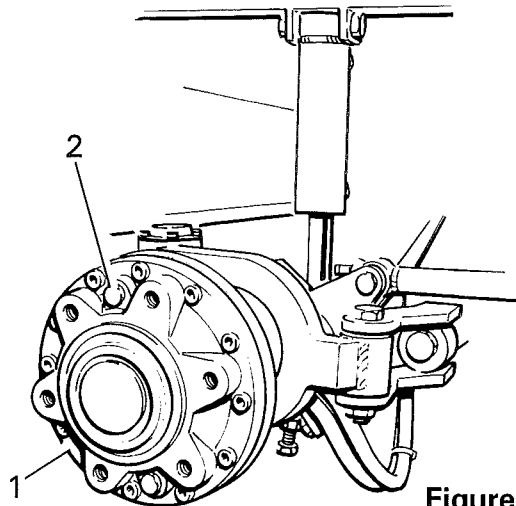

Figure 27
The optional hydraulic powered axle is designed to provide additional traction during work. The powered axle is capable of transferring up to 45hp from the tractor PTO to hydraulically drive the harvester wheels giving a maximum speed of 5.5kmh (3.5mph). This is achieved by means of the load sensing, pressure compensated, variable displacement pump (item 1, figure 25) which provides the hydraulic oil flow to drive the wheel motors (item 1, figure 27).
Place the motor in a position in which one of the bleed screws (*item 2, figure 27*) is topmost. Remove the bleed screw and pour in hydraulic oil until all trapped air has been eliminated. Refit the bleed screw and repeat for the second motor. Run the motors unloaded. Finally, operate the motors under load and check for leaks and extraneous noise.